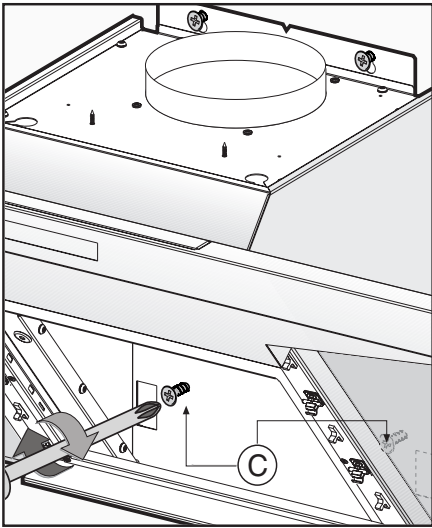

Fig.8
- Once the adjustment has been completed, fix the hood using the 2 screws **C** (Fig.8).